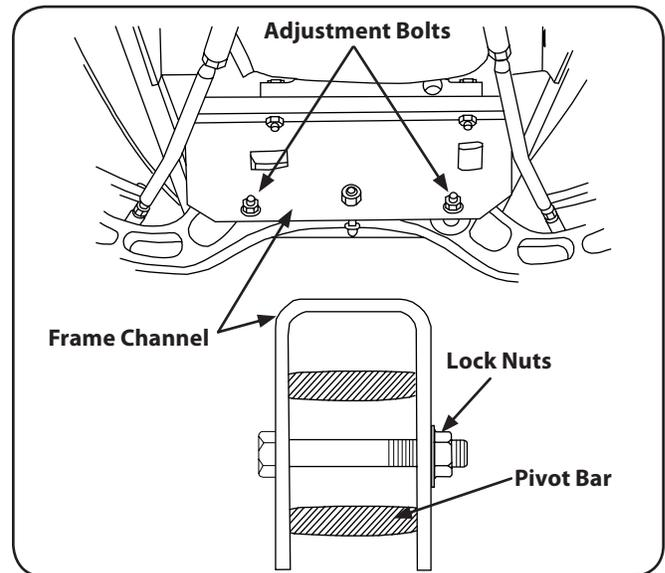

Figure 6-9
- Move the ends of the pivot bar up and down to check for binding. If binding is present, loosen the lock nuts until binding is eliminated. See Figure 6-9.